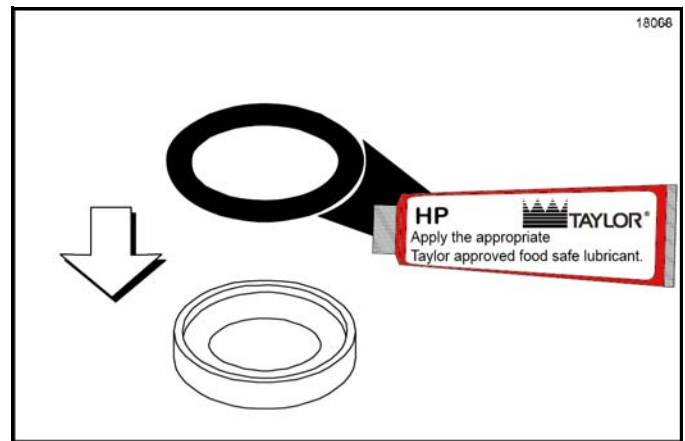

Figure 6-107
1. Lubricate and install the seal O-ring into the seal. (See Figure 6-107.)